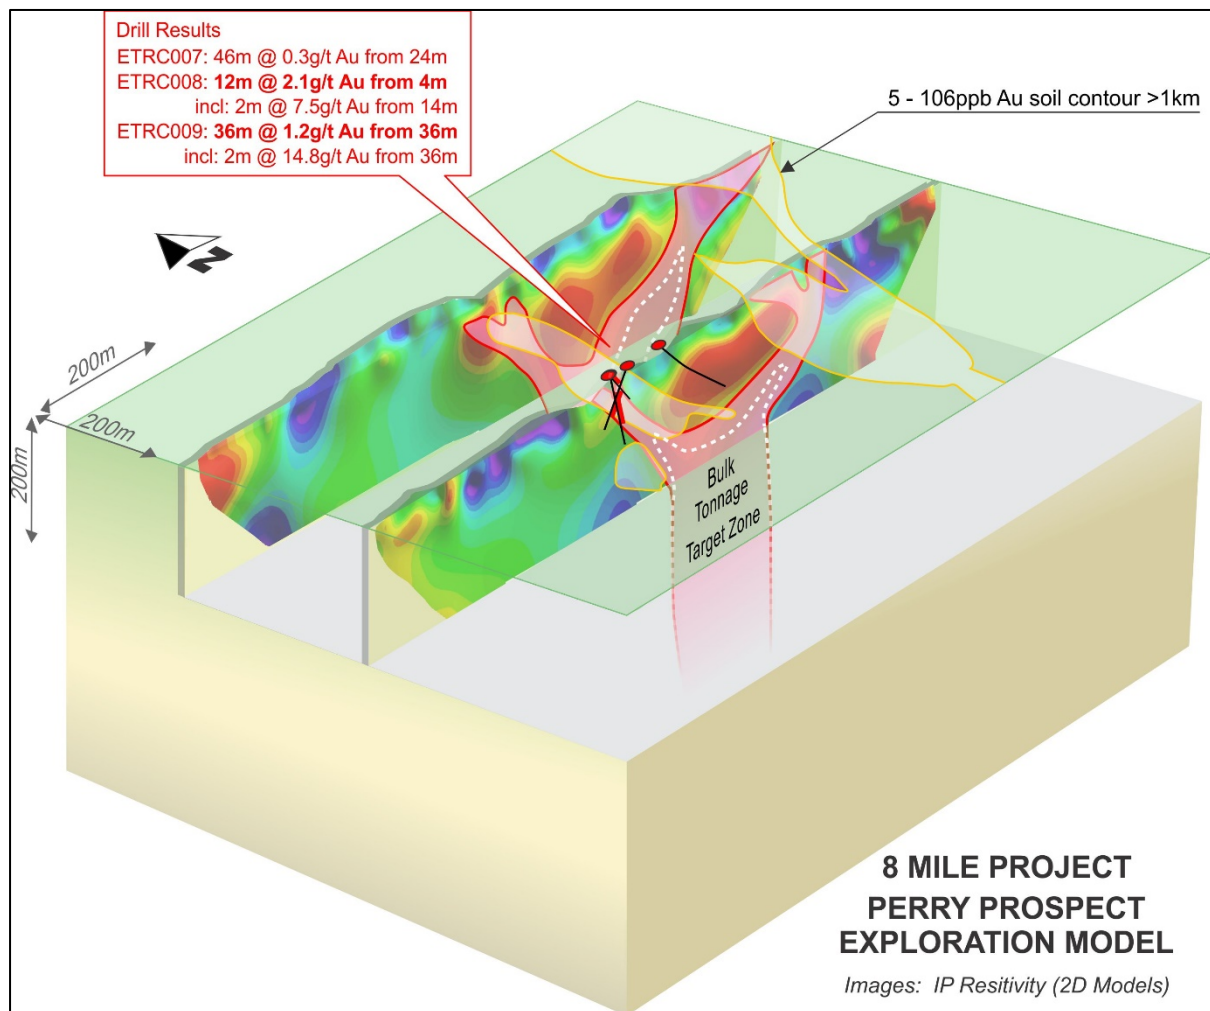
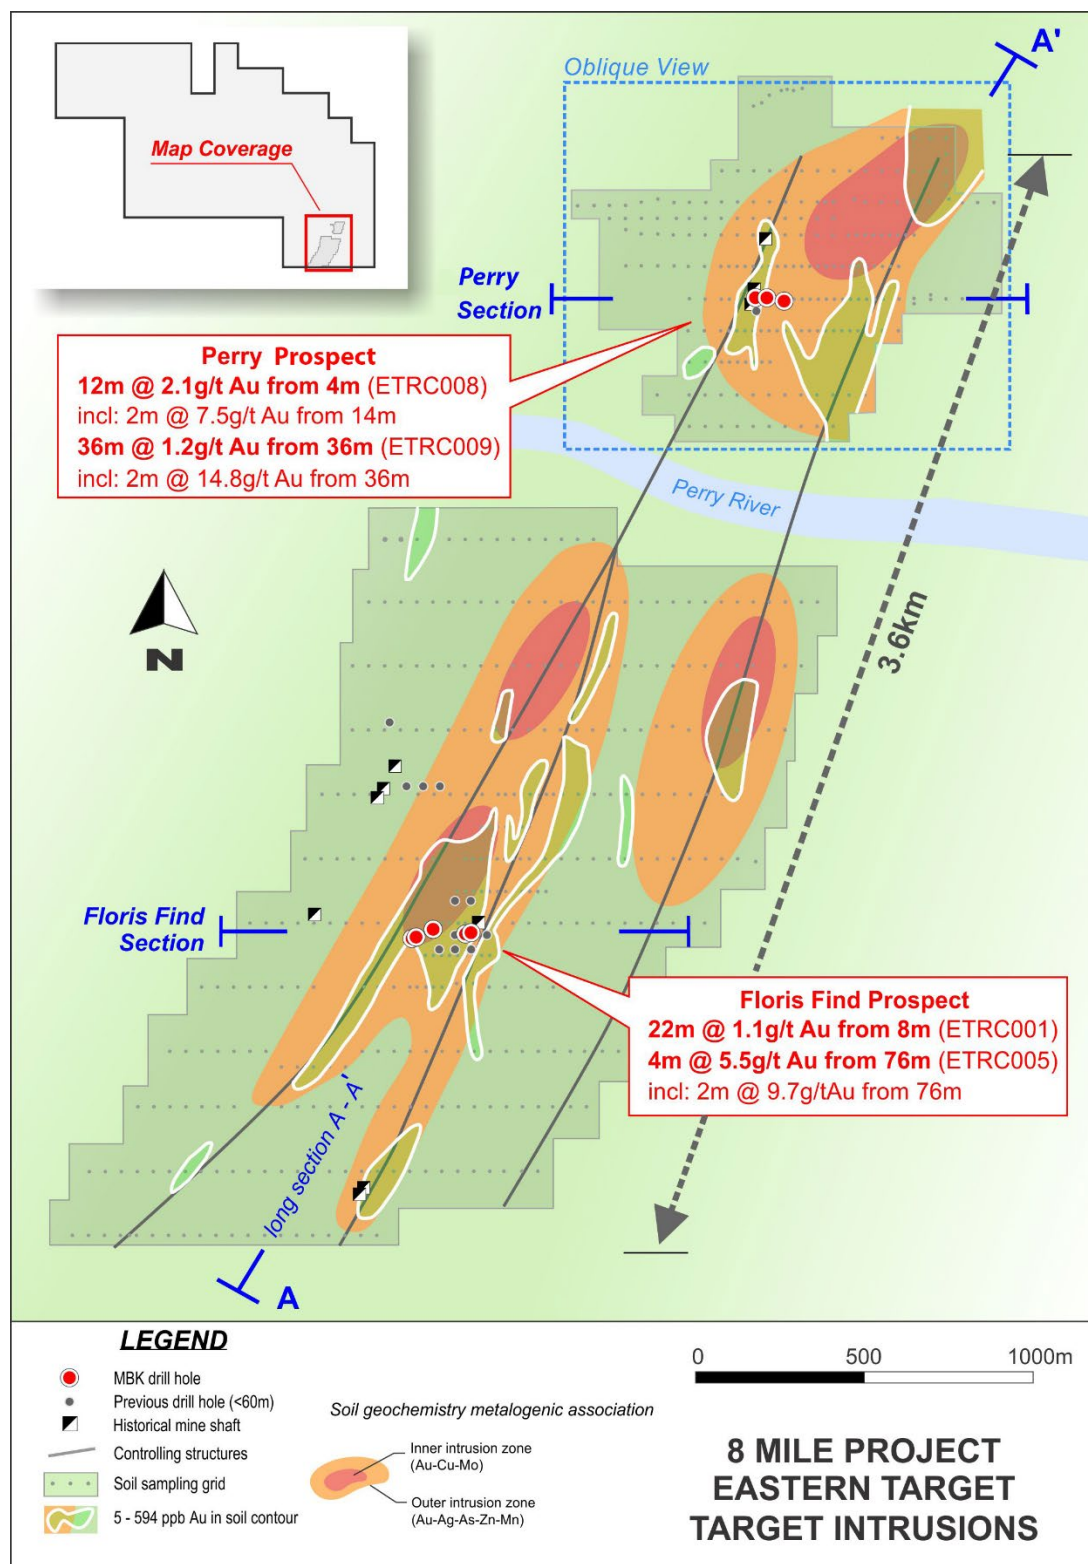

Figure 2: Perry prospect oblique view of IP geophysics and surface geochemistry showing exploration model and targets. Location of figure shown in Figure 3.
Figure 3: Eastern Target showing drilling and MBK soil geochemistry.
Metal Bank Limited (ASX: MBK) ('Metal Bank', 'MBK' or the 'Company') is pleased to provide the following drilling update from the Eastern Target of the 8 Mile Project in southeast Queensland, Australia (refer Figure 1). Results have been received from an initial reverse circulation (RC) drilling programme designed to investigate and expand on historical drill results². Ten holes (872m) were completed at Flori's Find and Perry (refer Figure 3).
Broad zones of gold mineralisation have been intersected at both the Flori's Find and Perry prospects which are located within the same structural corridor more than 2km apart (refer Figure 3).
Figure 2 shows an oblique view of the exploration model at the Perry prospect which highlights near surface drilling results, gold in surface geochemistry and the relationship with IP geophysical targets less than 200m below surface. Figures 3 and 4 show drill hole locations and detailed drill sections at Perry and Flori's Find.
Multi-element and gold surface geochemistry highlight at least four near-surface gold systems within an overall north-east trending structural corridor greater than 3.6km x 800m (open to the north-east) which includes the Flori's Find and Perry prospects (refer Figure 3). Metal zonation models derived from the interpretation of multi-element soil geochemistry suggest